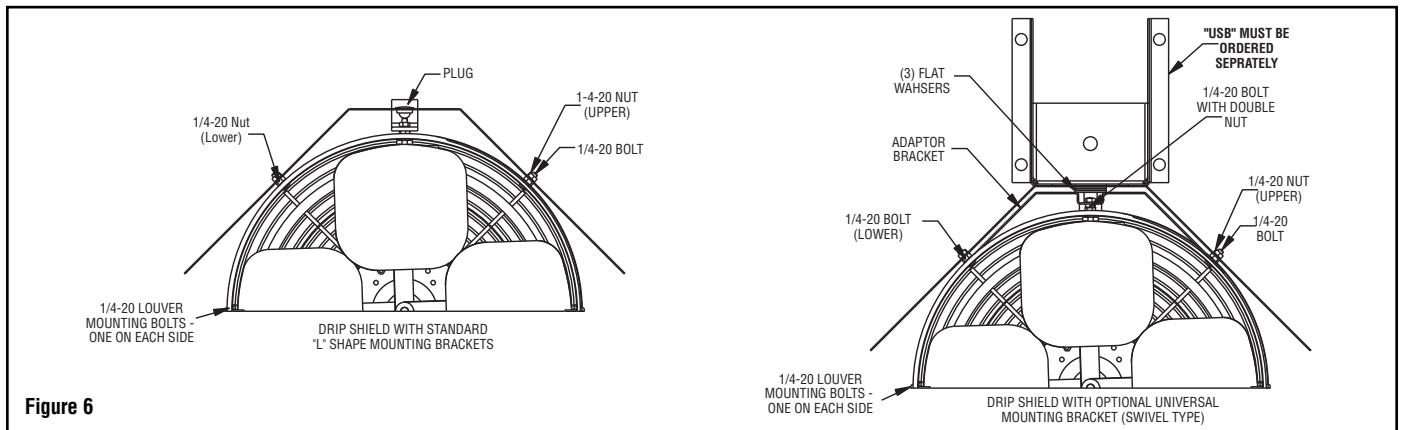

Figure 6
- Line up the four mounting holes on the shield with the four holes on the upper half of the heater case and fasten in place with the four stainless steel bolts, nuts and washers supplied with the kit. See figure 6.